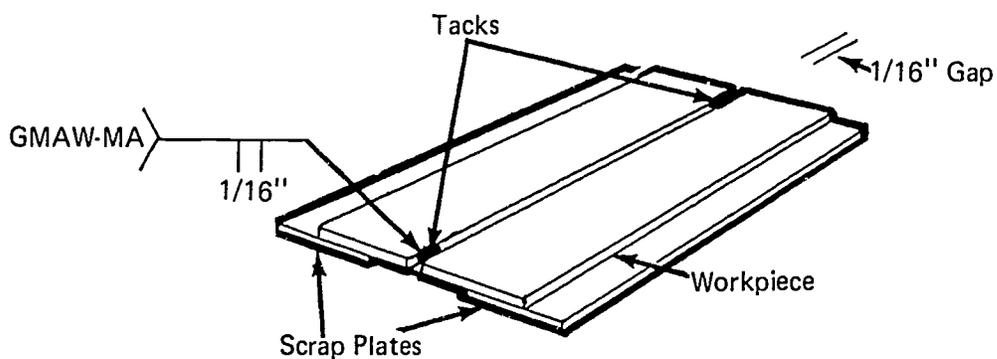

FIGURE 2
- E. Position metal to form a butt joint gap $1/16''$ and tack on each end placing scrap pieces under weld metal to hold off table (Figure 2)